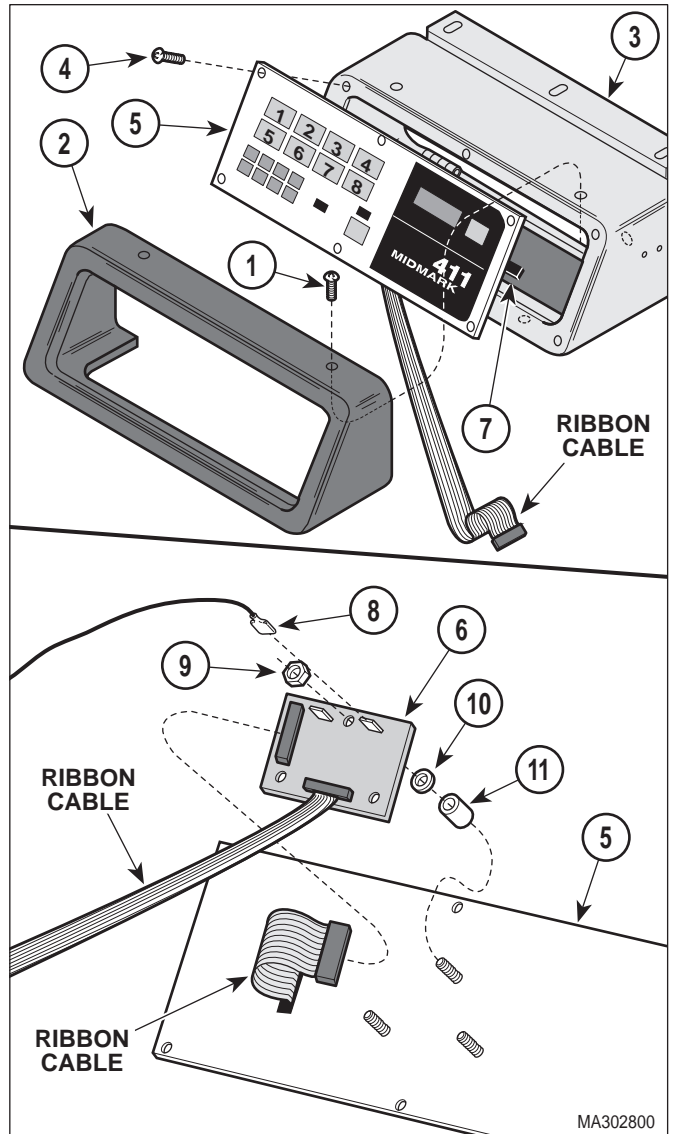

Figure 4-7. Program Panel or Program Panel Interface Board Removal / Installation
- (1) Unplug table power cord from wall outlet.
- (2) Remove four screws (1, Figure 4-7) and bezel (2) from console weldment (3).
- (3) Remove six screws (4) and partially remove program panel (5) from console weldment (3).